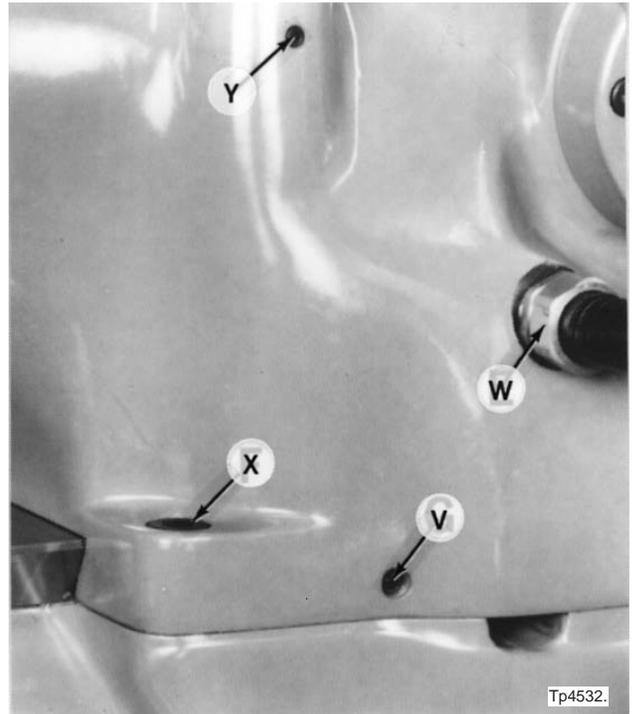

Figure 4.76 - Back of Headstock
26. Remove lock screw "Y", Figure 4.76, and loosen the set screw under lock screw "Y".
33. Remove cable nut "W", Figure 4.76, and pull the limit switch wires out of the headstock.
9. Replace the set screw located under lock screw “V”, Figure 4.76 .
19. Replace the set screw located under lock screw “Y”, Figure 4.76 .